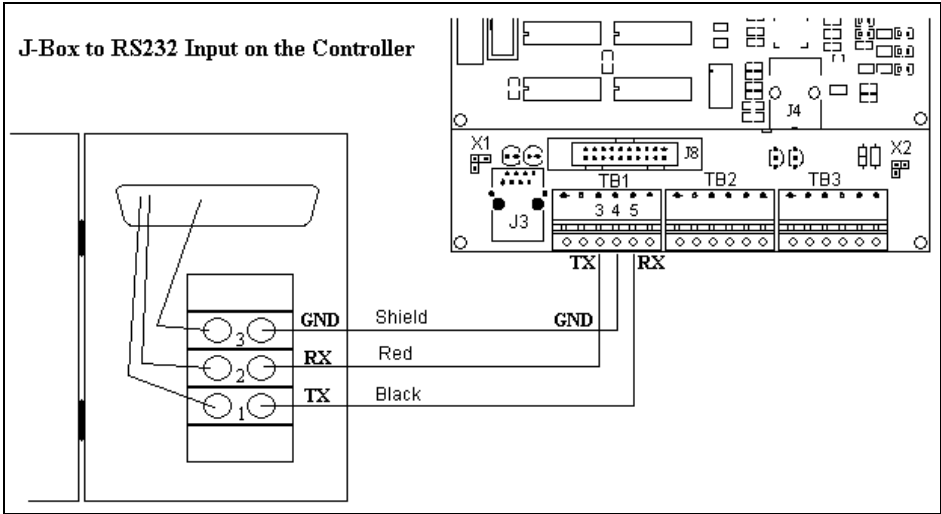

Figure 24: J-box to RS232 IN on Controller Board
2. When connecting directly to the display, terminate the wire to the terminal block in the J-box and the other end to the 6-position Phoenix plug on the controller labeled “RS232 IN” (TB1). **Drawing B-177662** and **Figure 24** below shows the terminal block wiring.